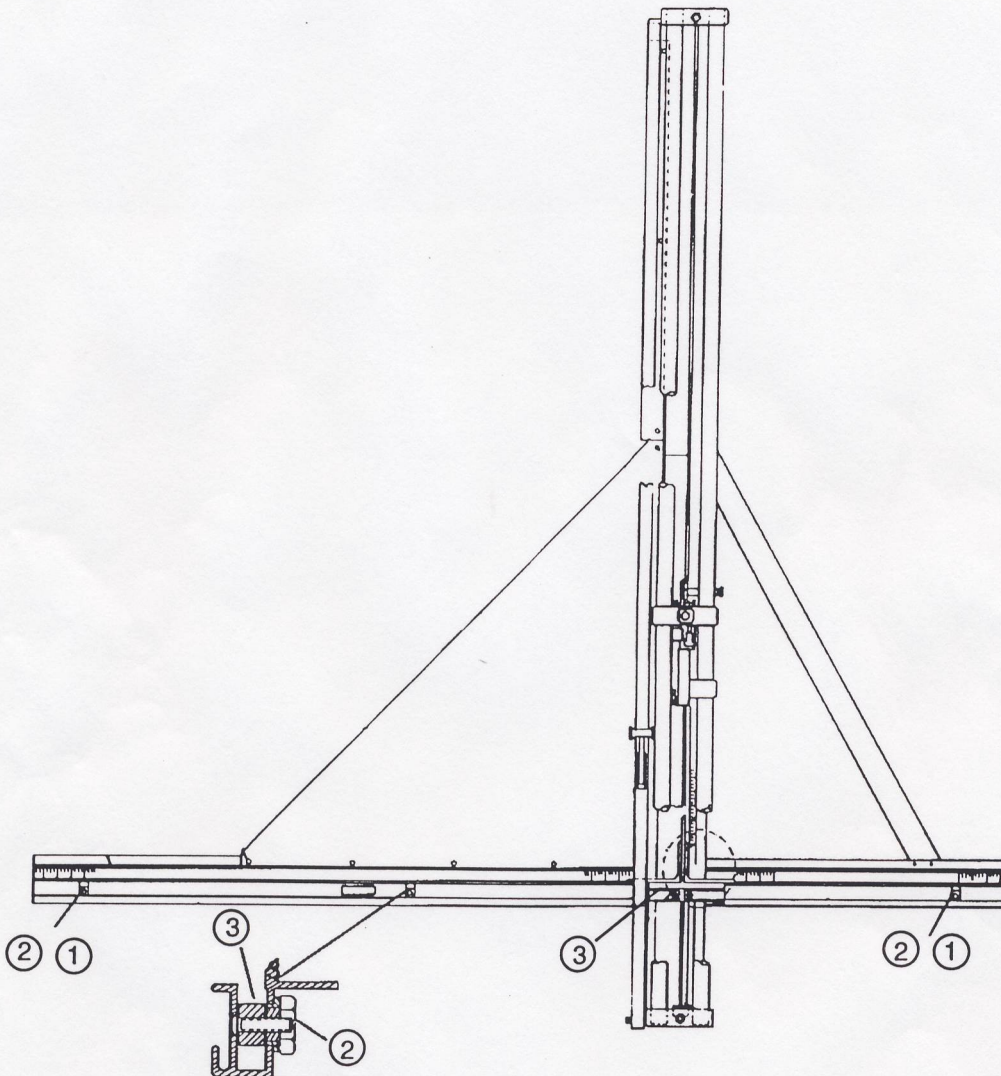

Fig. 1
1. Loosen the cap screw on the outermost eccentric hex (Ref. #1 - Fig. 1). One is located at approx. the 46" mark on the left side of the machine and the other is located on the right support of the machine. Do not loosen the cap screw for the middle eccentric hex located at the 20" mark on the left side of the machine at this time.
2. Reach around the back of the machine and lower the squaring edge bar on the left as well as the right as low as it will go by turning the eccentric hex (Ref. #2 - Fig. 1). Remember, do not touch the middle eccentric hex at this time.
7. If the two cuts line up, the first 20" is square. At this point, you are only checking the status of the first 20" (to the point of the middle eccentric hex). If the second cut falls either to the left or to the right of the original, then an adjustment needs to be made to the middle eccentric hex only. Keep in mind that the error is half the distance between the two cut lines. For example, if the distance between the two cut lines is 1/8", the actual error is 1/16". Note: if the second cut falls to the left of the first, then the squaring edge bar (Ref. #3 - Fig. 1) needs to be lowered. If the second cut falls to the right, the bar needs to be raised.
(Please refer to Fig. 1 on reverse side)